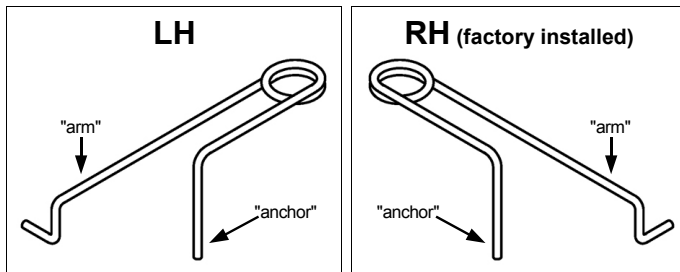

Fig. 2d: The RH spring is installed at the factory; the LH spring is supplied.
- 2d. There are two types of springs; an RH spring installed at the factory, and an LH spring (supplied). Select the LH spring (see Fig. 2d).